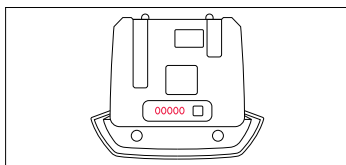

Figure 8
**Step 3:** Check the battery status (fig. 8):